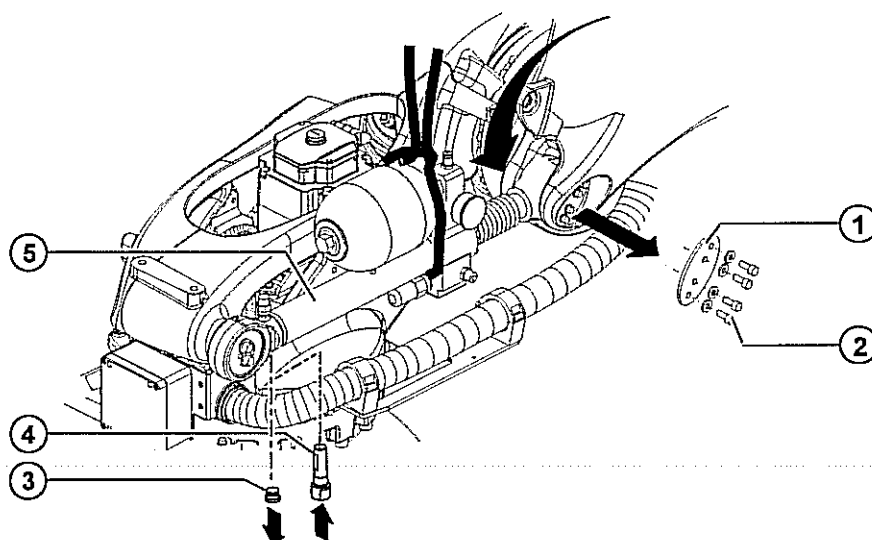

Fig. 12-19: Removing the counterbalancing system: locking pin
1. Remove the screw plugs (>>> Fig. 12-19).